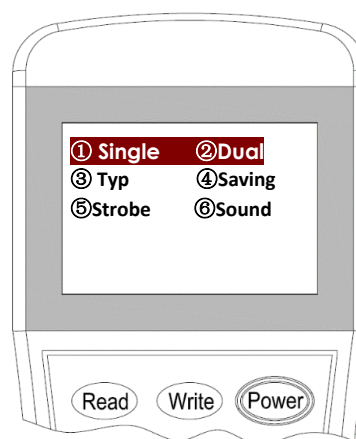

Figure 9
3. Input the **"1"** for Single Address mode or **"2"** for Dual Address mode then press **"Write"** to change the setting into the desire mode (Figure 9).